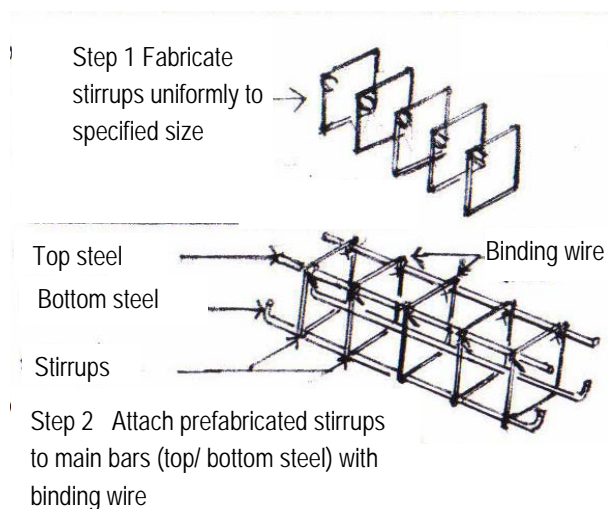

Fig 9A - **Fabricating reinforcements**
- Used a reliable method to ensure that reinforcement cages are Correctly sized whether fitted in-situ or pre-fabricated (See fig. 9A)